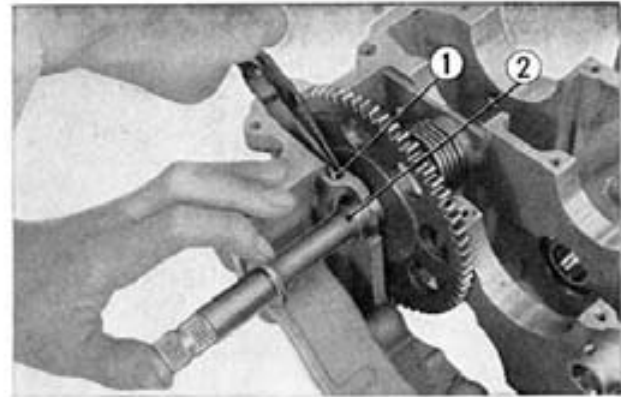

Fig. 3-92 ① Kick starter shaft stopper pin
① Kick starter gear
② Kick starter flange
③ Kick starter spindle
④ Kick starter return spring
⑤ Kick starter pawl
3. Remove the kick starter shaft stopper pin and remove the kick starter shaft. (Fig. 3-92)